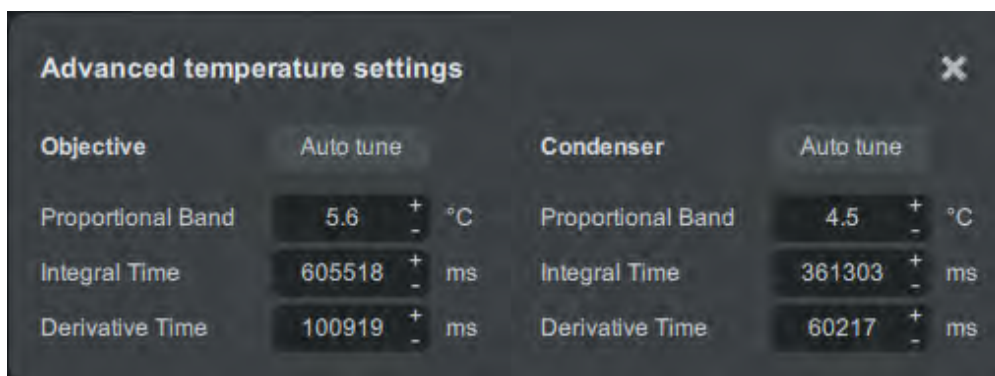

Figure 11.16.2: Advanced temperature control settings.
6. To fine-tune the PID (Proportional-Integral-Derivative) parameters for temperature control, click on the ... icon to open a separate window (see Figure 11.16.2). In this window, you can manually adjust the PID parameters or initiate a self-tuning procedure by clicking the **Auto Tune** button.